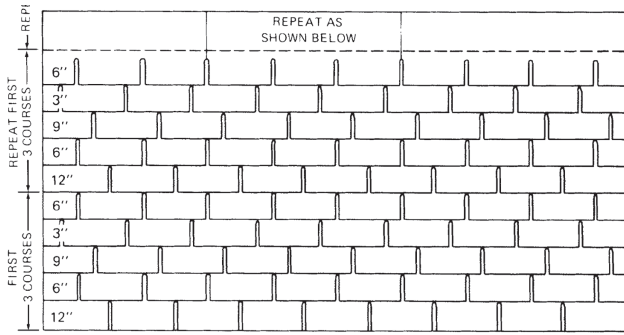

Fig. 8-60 Random spacing of three-tab square-butt strips. (Bird and Son.)
3. Random spacing (Fig. 8-60).